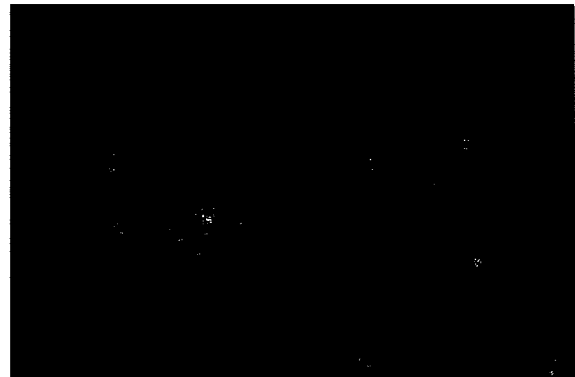

Figure 15
5. Press on a brush or pad, under the flex plates. See figure 15.